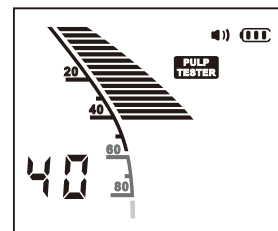

Fig.36
- 1) The reading corresponding to the normal stimulus is 1-99, is estimated that the tooth is vital (Fig.36).